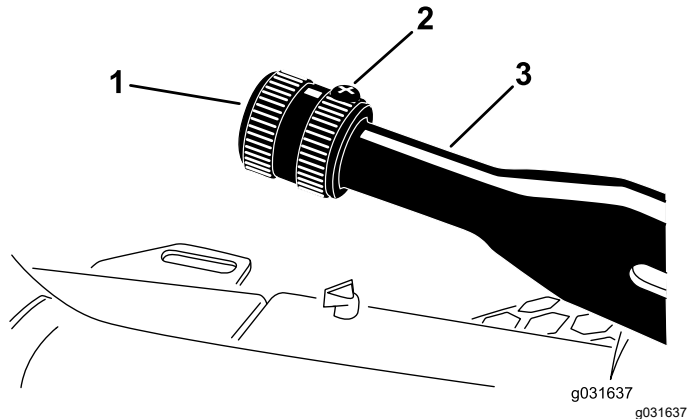

Figure 61
1. Loosen the set screw securing the knob to the parking-brake lever (Figure 61).